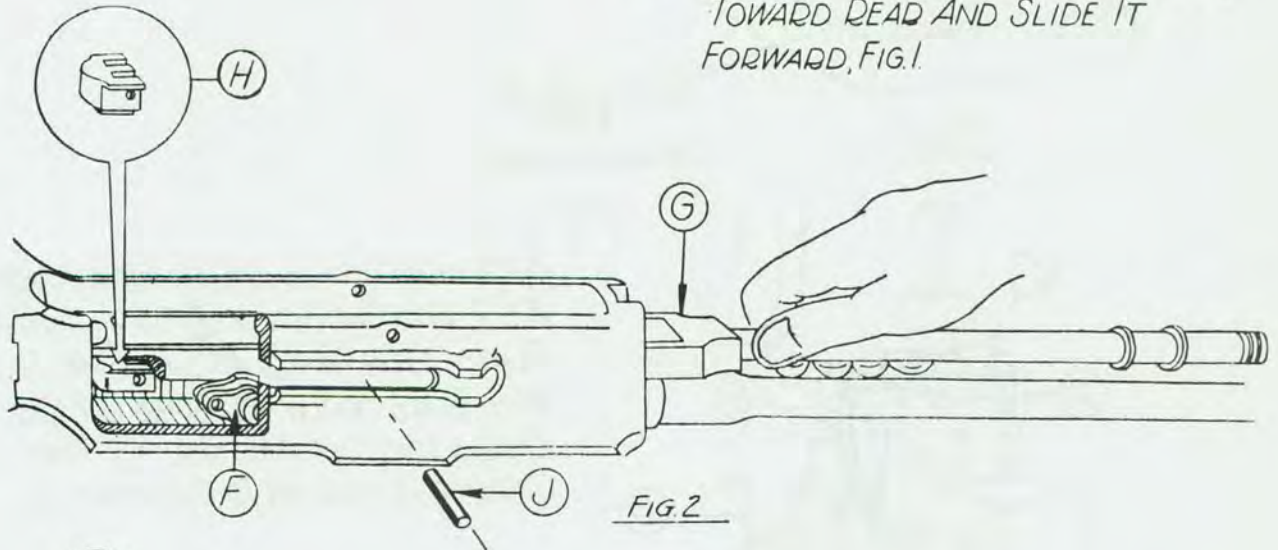

FIG. 2
⑥ PLACE PIN (A) IN THE BOLT AND BOLT LOCK ASSEMBLY (B) AS INDICATED. INSERT THE ASSEMBLY (B) IN FIXTURE (C).
⑦ IT IS IMPORTANT TO SECURE THE ASSEMBLY (B) FIG. 2, WITH THE SCREW (D) FIRST. THEN PLACE PLATE (E) ON PIN (A) AS SHOWN AND SECURE WITH THUMB SCREW (F). GRIND OFF ONLY ENOUGH FOR BOLT ASSEMBLY (B) TO BE CORRECT, ACCORDING TO OPERATION 5.
10 PRESS DOWN BOLT LINK (F), FIG. 2, AND INSERT OPERATING SLIDE (G). SLIDE HAMMER (H) INTO UNDER SIDE OF OPERATING SLIDE (G). PULL SLIDE (G) FORWARD AND LIFT UP LINK (F) UNTIL PIN (J) CAN BE INSERTED THROUGH SLIDE (G), HAMMER (H) AND LINK (A).